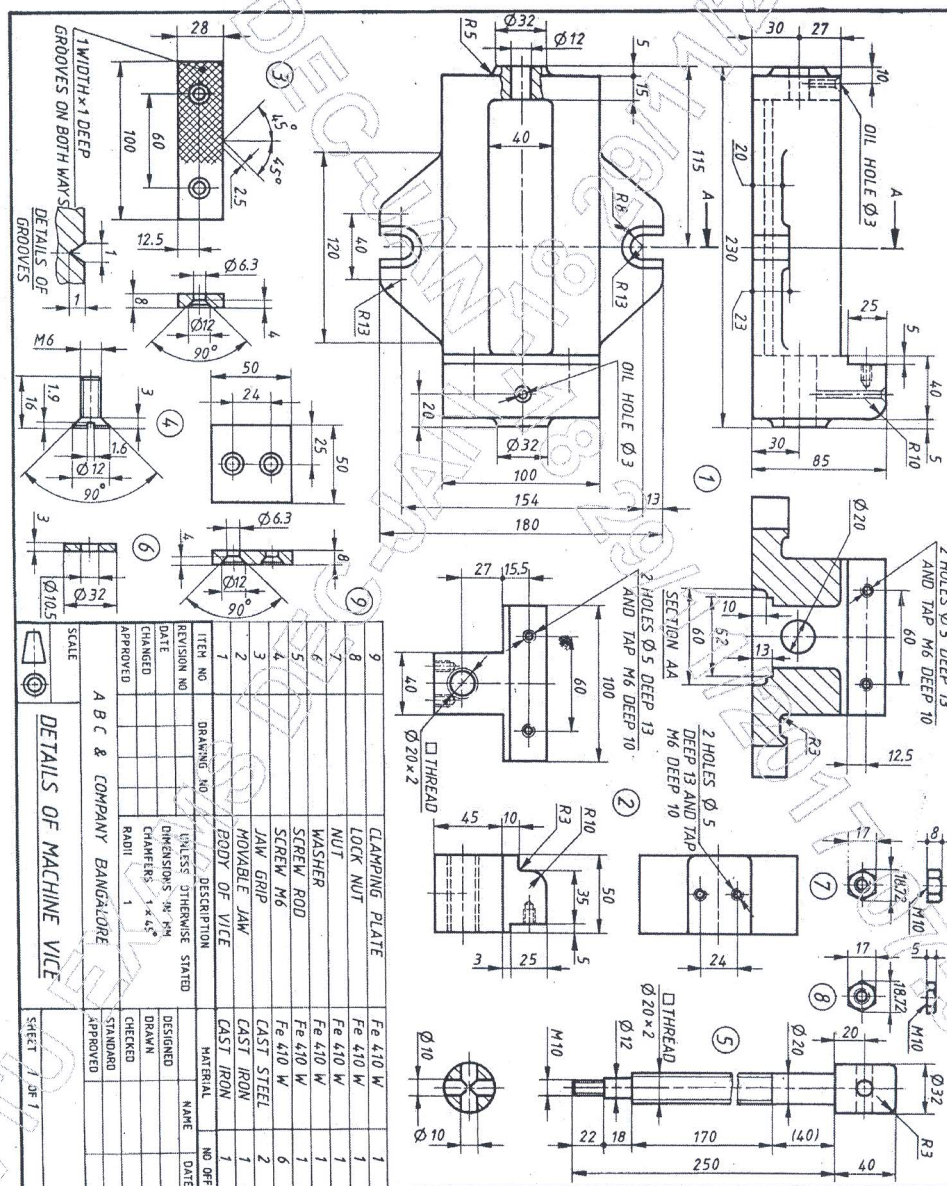

Figure 2
- The details of machine vice are shown in figure 2. Assemble the parts and draw the following views of assembly.